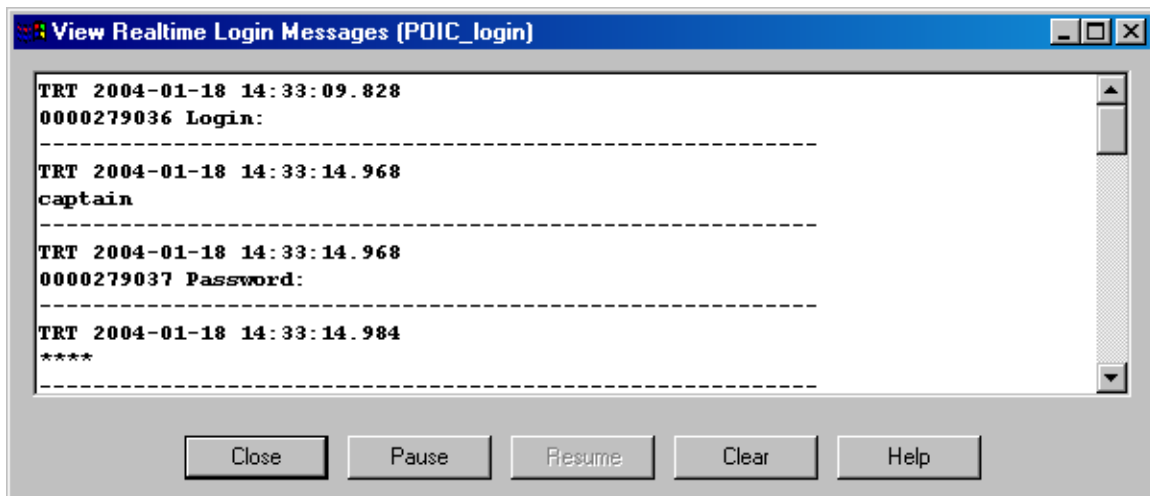

Figure 25 View Realtime Login Messages Dialog
2. Go to the **Destination** menu, and select the **View Realtime Login Messages** menu item. The dialog in Figure 25 is displayed.